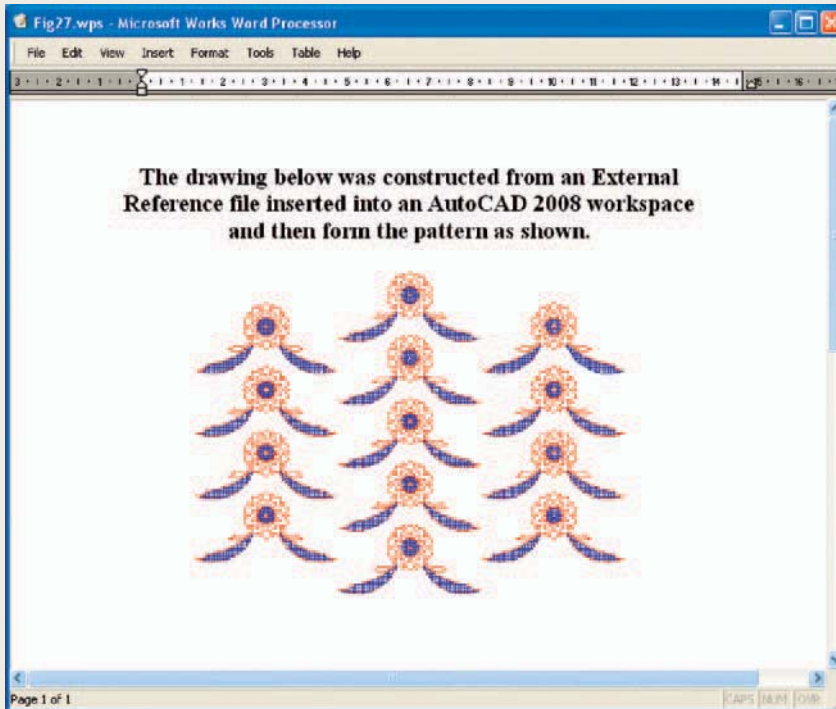

Fig. 10.31 Exercise 4 – an example
- Using **Copy** from the **Insert** drop-down menu, copy a drawing from AutoCAD 2010 into a Microsoft Word document. An example is given in Fig. 10.31. Add some appropriate text.